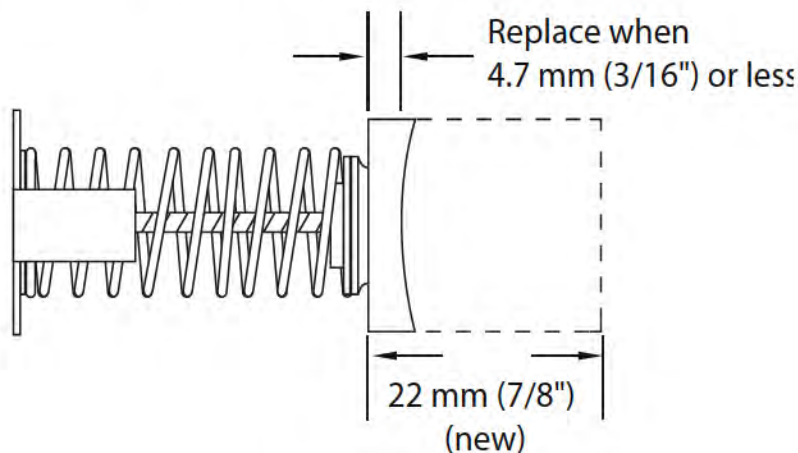

Figure 7.
2. See Figure 7. The brush assemblies must be replaced if they are 4.7 mm (3/16") or less.